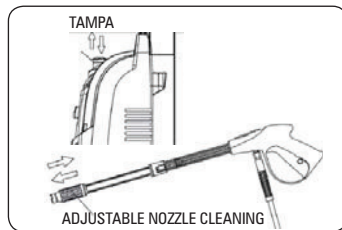

FIGURE 18
5. Pull the nozzle forward to reduce the spray pressure (1700W, 2000W and 2600W figures 18, 19 and 20).